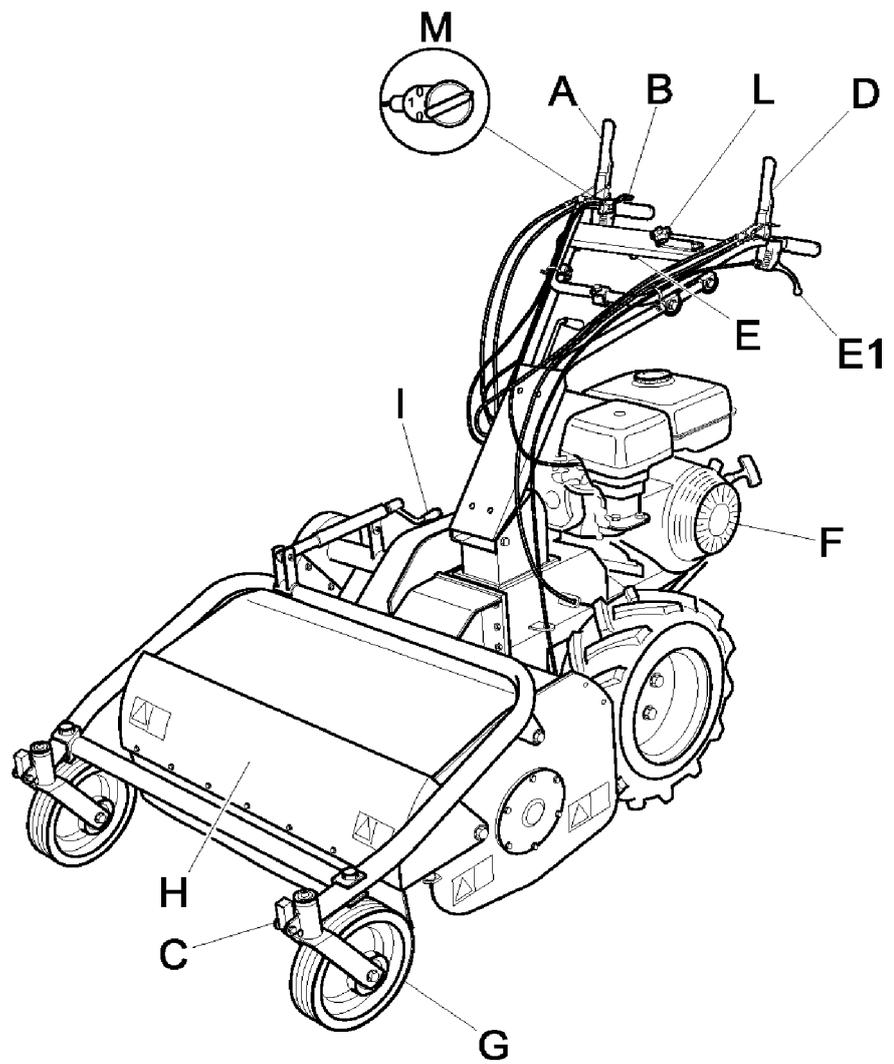
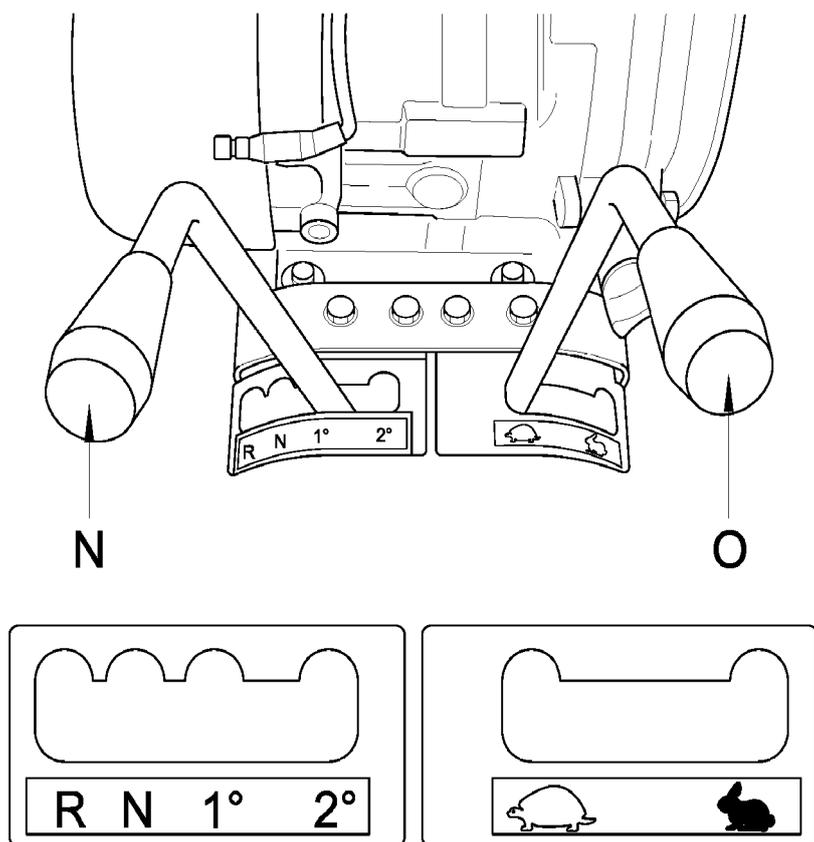

Figure 1
Figure 2
The front guard (Fig. 1 Ref. H) opens or closes automatically according to the amount of grass to be cut. Use of the machine with the guard left open is strictly prohibited. This may cause the outward projection of objects.
This handle is used to select the speed of the machine (slow/fast). Used in conjunction with the gear selector handle (Fig. 2 Ref. N) it offers 4 forward gears and 2 reverse gears.
Before operating the slow/fast speed handle (Fig. 2 Ref. O), the gear selector handle (Fig. 2 Ref. N) should be put into neutral gear (N). Then select the desired gear.
WHEN WORKING ON GRADIENTS ONLY USE THE SLOW SPEED BY KEEPING THE SLOW/FAST CONTROL HANDLE IN THE „SLOW” POSITION (Fig. 2)
Be sure to set the handle positions correctly (Fig. 2 Ref. N and O), making sure that the handles are correctly engaged; if they are not, engage the forward clutch lever momentarily (Fig. 1 Ref. A) so that the speed setting engages correctly.
- Before switching on the engine make sure that both engagement levers (forward clutch control lever - Fig. 1 Ref. A and flail clutch control lever - Fig. 1 Ref. D) are in the disengaged position (released); the service brake will be on automatically; then place the gear handle in neutral (see Fig. 2 Ref. N)
- The guard in front of the flails (Fig. 1 Ref. H) must always be closed while the machine is in use.